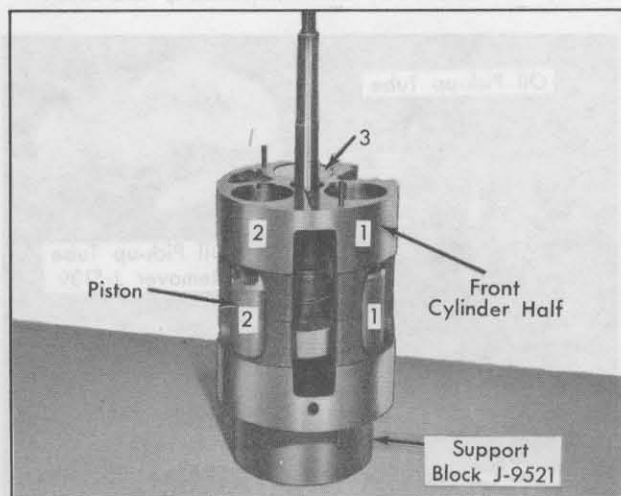

Fig. 1-78 Numbering Piston and Cylinder Bores
2. Identify by pencil mark, or some other suitable means, each piston numbering them 1, 2, and 3. Fig. 1-78. Number the piston bores in the front cylinder half in like manner so that pistons can be replaced in their original locations.